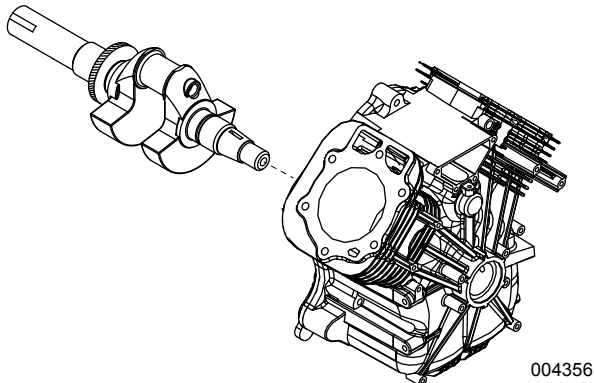

Figure 10-4. Remove Crankshaft
7. See Figure 10-4. Remove crankshaft.